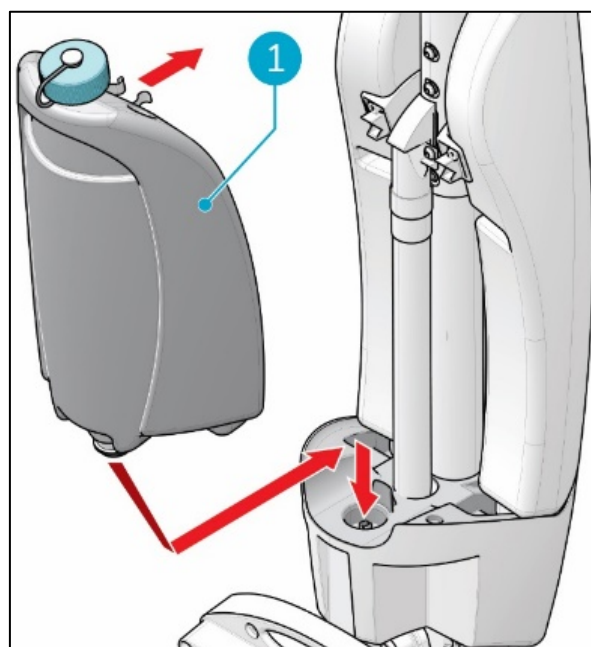

Figure 14
5. Put the tank on the i-mop XXL plus with the valve first (Figure 14, pos 1).